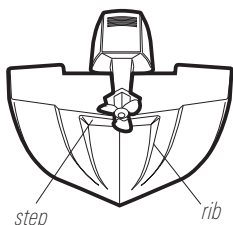

Figure 9
- On boats with stepped hulls, it may be possible to mount the transducer on the step. Do not mount the transducer on the transom behind a step to avoid popping the transducer out of the water at higher speeds. The transducer must remain in the water for the control head to maintain the sonar signal (Figure 9).